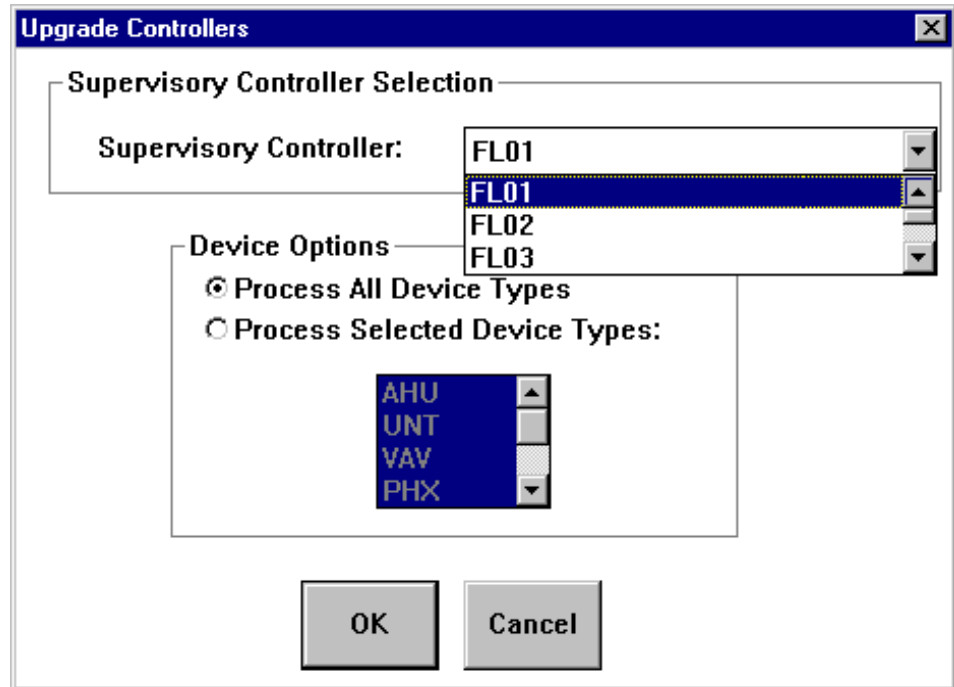

Figure 17-8: Upgrade Multiple Controllers Dialog Box
4. Click OK or press Enter. The Upgrade Controllers dialog box appears (Figure 17-8).